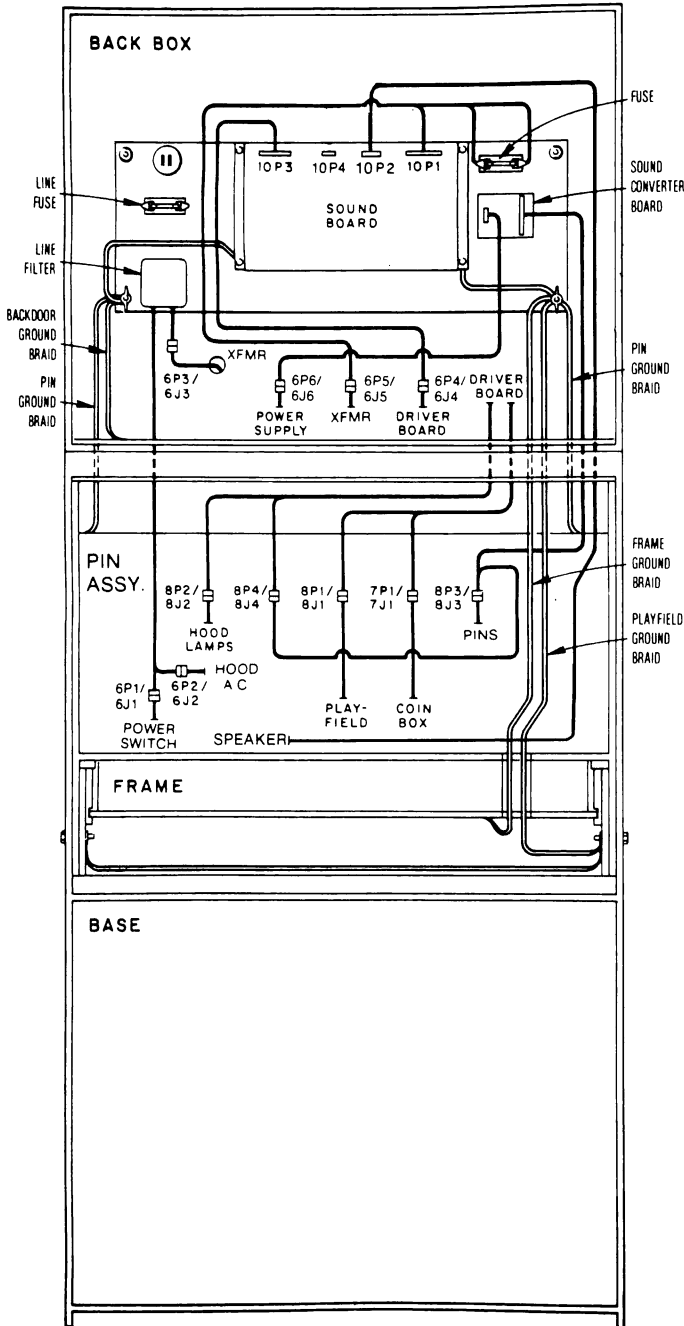

Figure 1. Back Box Cabling Drawing
18. Refer to Figure 1 and connect the four cables from the frame as indicated. Note that proper connections mate wires of the same color.
19. Refer to Figure 1 and connect the three cables from the back box (6P2/6J2, 8P2/8J2, and 8P3/8J3) to connectors from the pin assembly. Note that proper connections mate wires of the same color.
20. Refer to Figure 1 and interconnect the 11P1-8P3-8J4 harness between the Sound Converter Assembly, Driver Board harness, and pin assembly harness.
21. Refer to Figure 1. Check that all other connections in the rear of the back box are securely made. Note that the wire colors for the 6P2 and 6P3 connectors do not match.
22. Refer to Figure 1 and connect the ground braid from the left side of the pin assembly under the wing nut and washer at the left side of the backbox along with the back door ground braid. Similarly connect the ground braid from the right side of the pin assembly, frame ground braid, and playfield ground braid under the wing nut and washer at the right side of the back box.